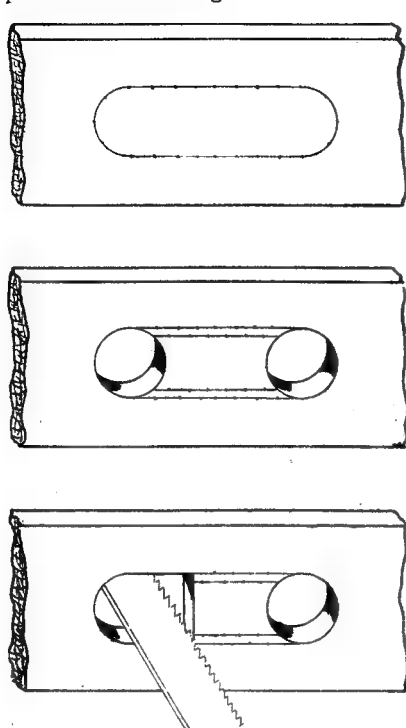

Fig. 7. Above—A; centre—B; below—C. Cutting an internal profile with radial ends
another. Internal profiles which have radial ends are somewhat less difficult to cut than the radii can first be produced either by a drill or, in the case of large radii, by boring in the lathe. An example of this is shown in Fig. 7 (A). As will be seen in Fig. 7 (B), after marking-off two holes, whose diameter equals the width of the profile, have been made at each end. One of the holes is then opened out with a file, as shown in Fig. 7 (C), to allow the saw blade to be entered, but before cuts are made, a plug should be fitted to the other hole